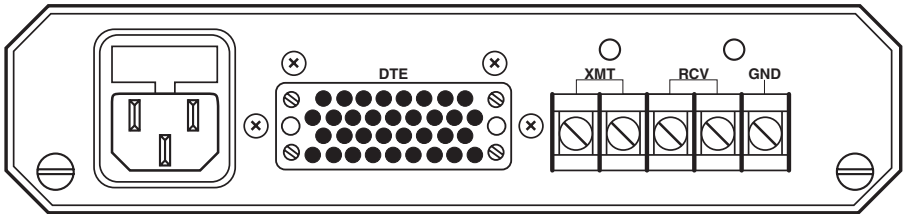

Figure 3-1. Rear-panel view of the ME270A-R2.
AC power is supplied to the Hi Speed Short Range Driver through the fused IEC 320 male inlet on its rear panel, using a detachable 5-foot (1.5-m) cord terminated by a grounded plug of the appropriate type. **Figure 3-1** on the next page shows the rear panel of the ME270A-R2.
The line fuse is in an integral-type fuse holder on the rear panel (see **Figure 3-1**). Use only fuses of the proper rating (marked on the rear panel) as replacements. Do not use repaired fuses or short-circuit the holder. Disconnect the mains cable before removing the fuse.
2. Loosen the two screws at the bottom left and bottom right of the unit's back panel (see Figure 3-1 on page 15).